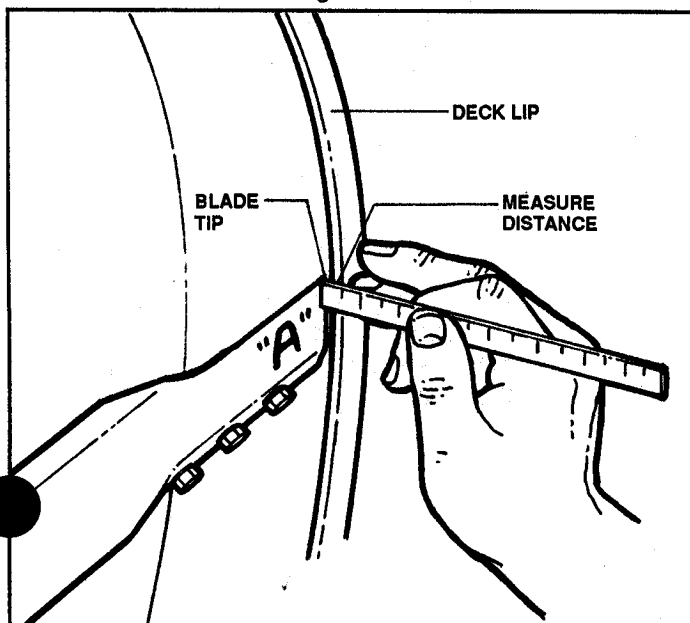

FIGURE 3.11
- Turn blade tip "A" to reference mark and measure distance between deck lip and blade. See Figure 3.11.